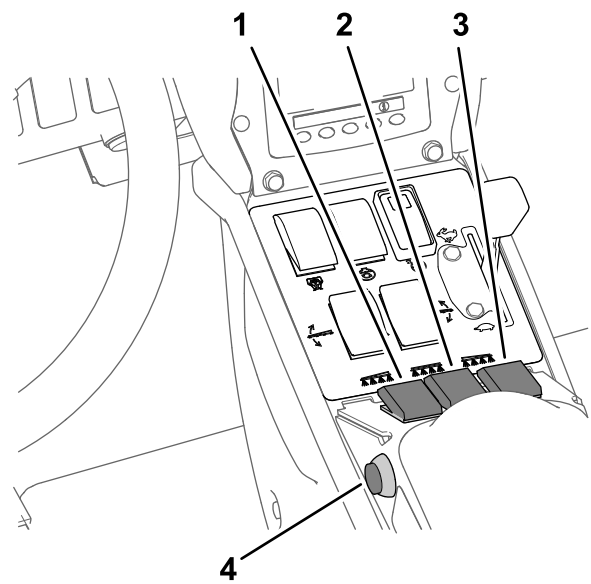

Figure 36
7. Set the spray section switch(es) to the ON position (Figure 36).
10. Drive at the desired speed and then set the master section switch to the ON position to begin spraying (Figure 36).
3. Set the master section switch to the OFF position; refer to Figure 36 in Spraying in the Application Rate Mode \(page 34\).
7. Set the individual section switches, as needed, to the ON position; refer to Figure 36 in Spraying in the Application Rate Mode \(page 34\).
9. Drive at the desired speed and then set the master section switch to the ON position to begin spraying; refer to Figure 36 in Spraying in the Application Rate Mode \(page 34\).